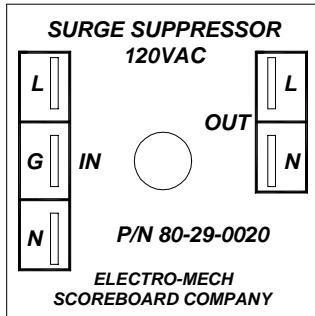

Figure 10 Surge Suppressor Terminals
6. Plug the $\frac{1}{4}$ " quick disconnects on the $\frac{1}{4}$ " tabs on the top of the unit. The black wires should be connected to the $\frac{1}{4}$ " tabs labeled L. The white wires should be connected to the $\frac{1}{4}$ " tabs labeled N. The green wire should be connected to the $\frac{1}{4}$ " tab labeled G. Figure 10 shows the top view of the Surge Suppressor.